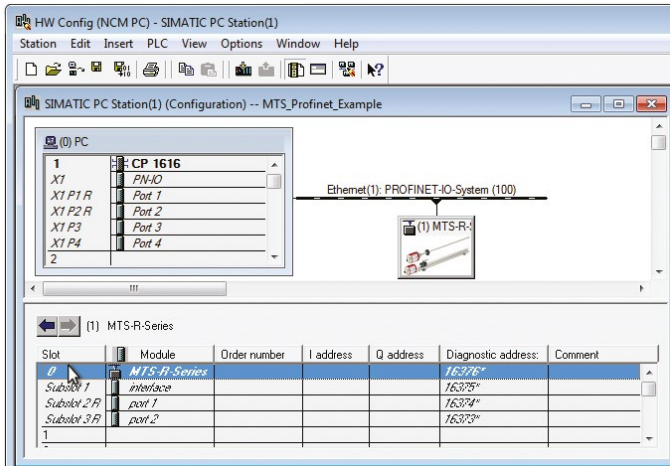

Fig. 64: HW Config-Window (Source: Siemens)
- Double-click Slot “0” to open a configuration dialog box (Fig. 64).